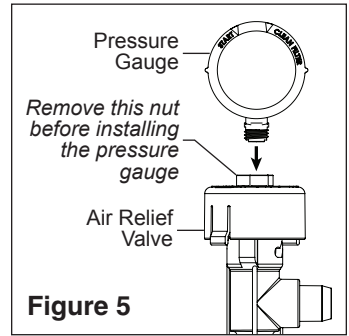

Figure 5
6. Carefully thread the pressure gauge into the top of the Air Relief Valve. Tighten the pressure gauge until secure which should take about 4 to 6 complete turns (see **Figure 5**).